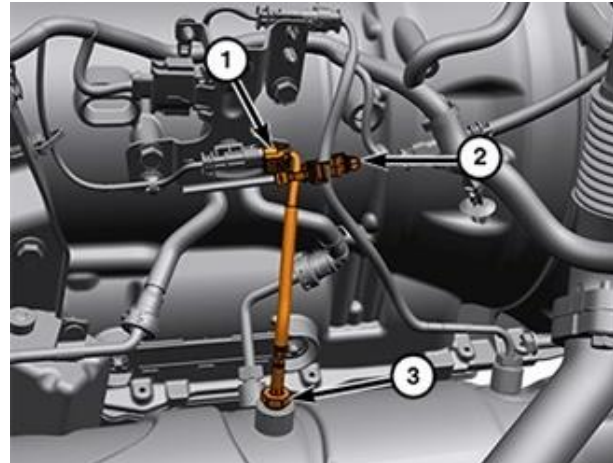

Figure 26 – EGT Sensor 1/3
32. Disconnect the Exhaust Gas Temperature (EGT) 1/3 wire harness connector and open the wire retainer (2) (Figure 26).